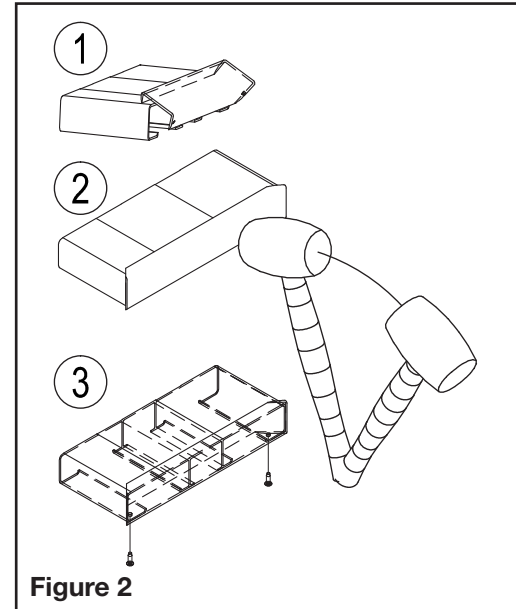

Figure 2
a. Attach end caps to all seat plank and foot deck plank as indicated in Figure 2 with the wider flange on the bottom. Tap the channel end cap into place with a rubber mallet.
b. Mechanically fasten with two (2) B99 #8 x 3/4" tek screws through the bottom of each end cap through the bottom of the plank.